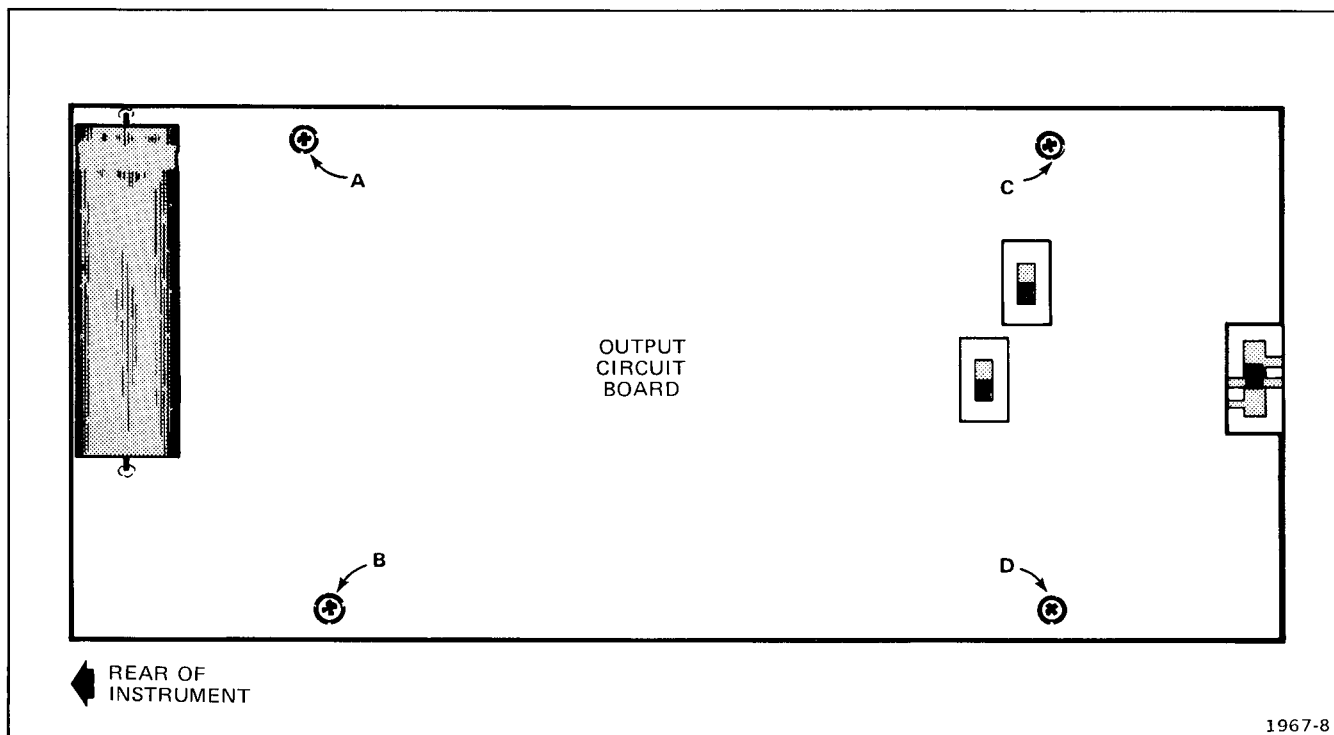

Figure 4-3. Locations of securing screws on the Output circuit board.
3. Remove 1 screw (A on Figure 4-3) from circuit board and remove power-supply shield.
4. Remove 1 screw (B on Figure 4-3).
8. Remove 2 screws (C and D on Figure 4-3) from circuit board.